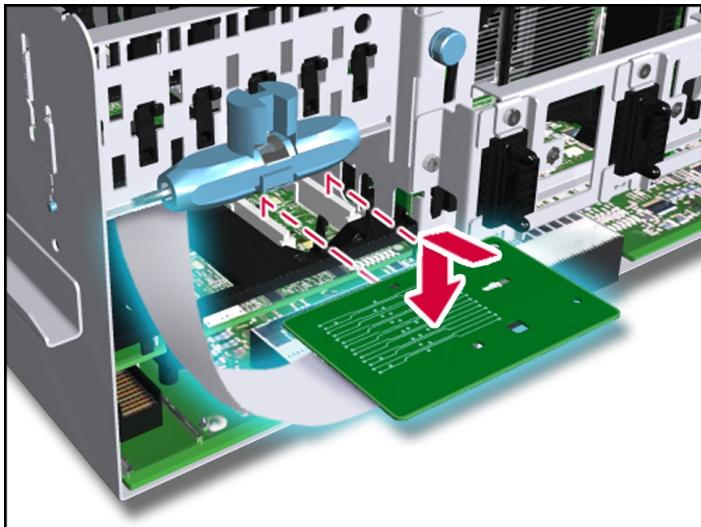

Figure 4-10: Installing the Integrated Array Bypass assembly
8. Install the Integrated Array Bypass assembly, as shown in Figure 4-10.